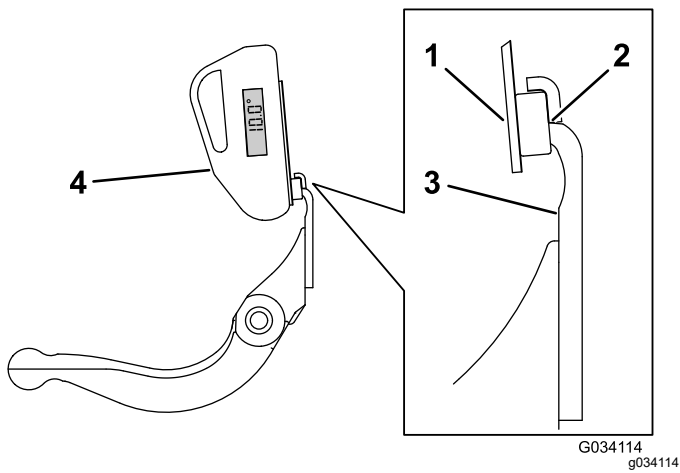

Figure 25
3. Place the angle-indicator mount on the edge of the bedknife so that the edge of the magnet mates with the edge of the bedknife (Figure 25).
4. Place the angle indicator on the mount as shown in Figure 25.